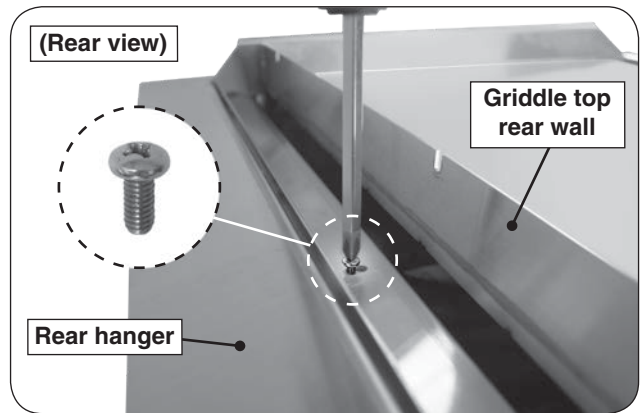

Fig. 23-2 Secure griddle top
2. Secure the griddle top by fastening the provided screw into the screw hole located on the rear of the griddle top (see Fig. 23-2).